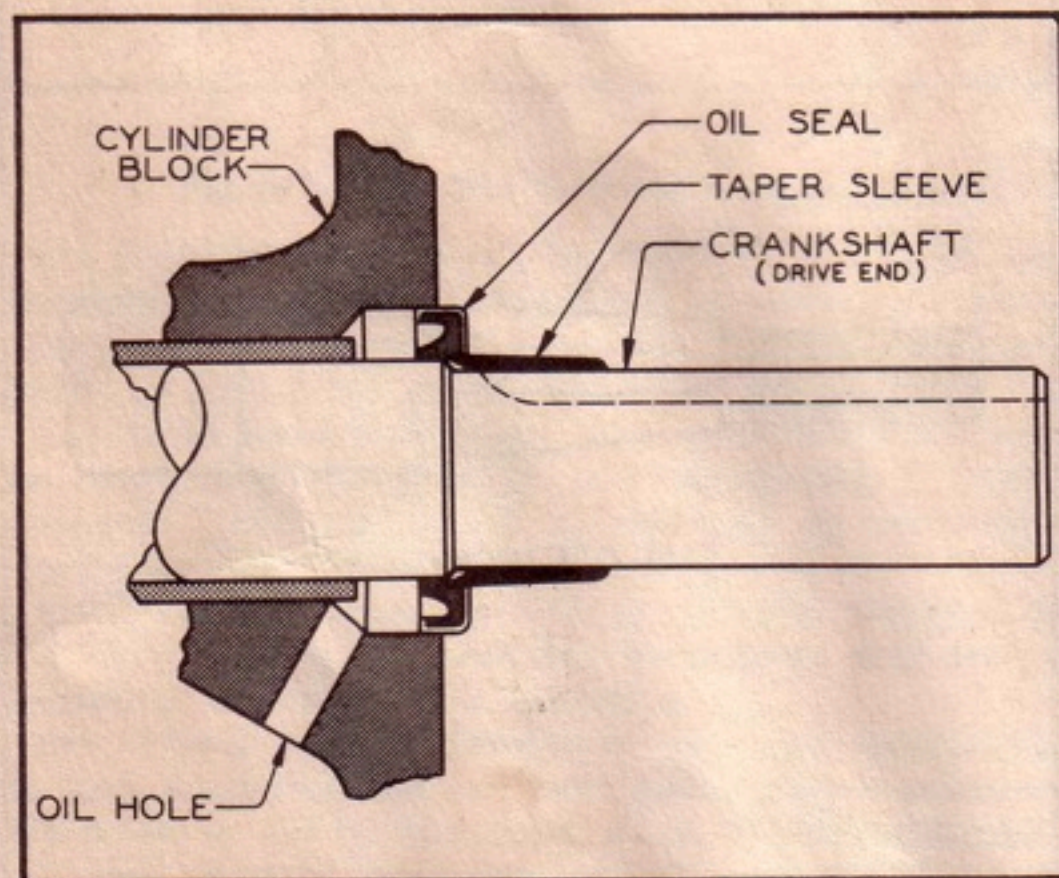

Figure C-32. Use of Tapered Sleeve for Installation of Oil Seal
- a. Select the proper insert used with the oil seal driver, Part No. 3157-A, and slide the insert over the crankshaft to protect the oil seal as it moves into position. (See figure C-32.)